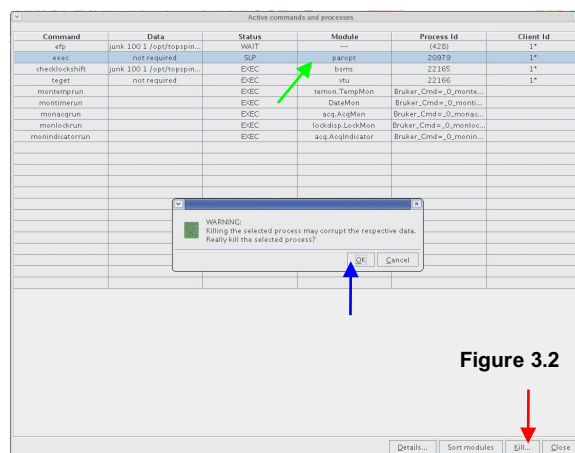

Figure 3.2
- Display the real and imaginary FIDs separately. (Fig. 3.2)